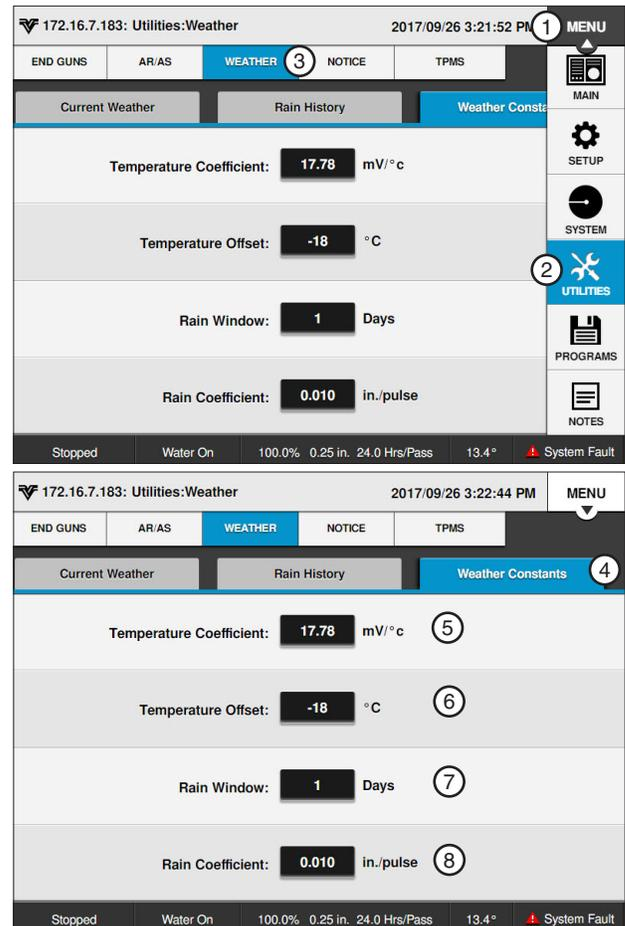

Figure 75-1 1. Menu 5. Temperature Coefficient
Push **Menu**, **Utilities**, **Weather** and **Weather Constants** to display the Weather Constants screen. Refer to Figure 75-1.
Example: to enter a negative number, push the **ABC** button, then push the **+/-** button and select **-**, then push the **123** button to return the numeric keypad and enter 1, 8, - for -18. Valid values are -500 - +500. The default value is -18. Refer to Figure 75-1.
2. Using the numeric keypad, enter the number of days (0 - 10). The default value is 1. Refer to Figure 75-1.
2. Using the numeric keypad, enter the Rain Coefficient Inches per Pulse (Rain Coefficient inches/pulse). Example: 1, 0 for 0.010. Refer to Figure 75-1.